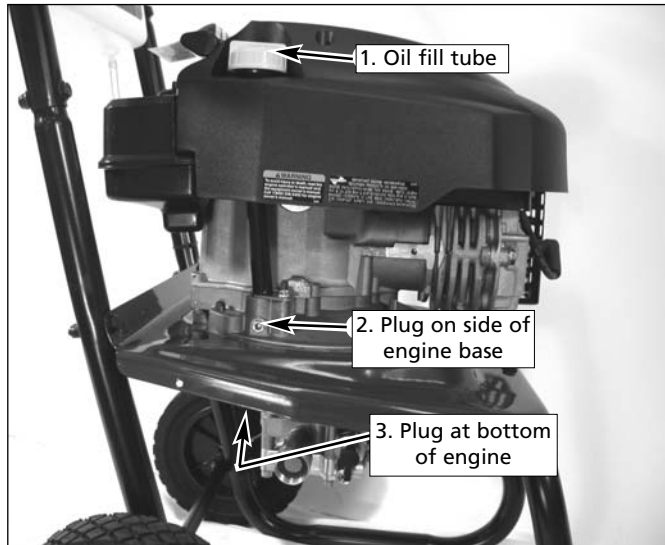

Figure 18 - Oil Drain Locations
2. Locate, and if accessible, remove the engine oil drain plug (if the engine is equipped with an oil drain plug, the drain plug is located in at least one of the locations shown in Figure 18). If the engine oil drain plug is not accessible or if the engine is not equipped with an oil drain plug, tip the unit on its side to drain the oil out of the oil fill tube (See Figure 18).